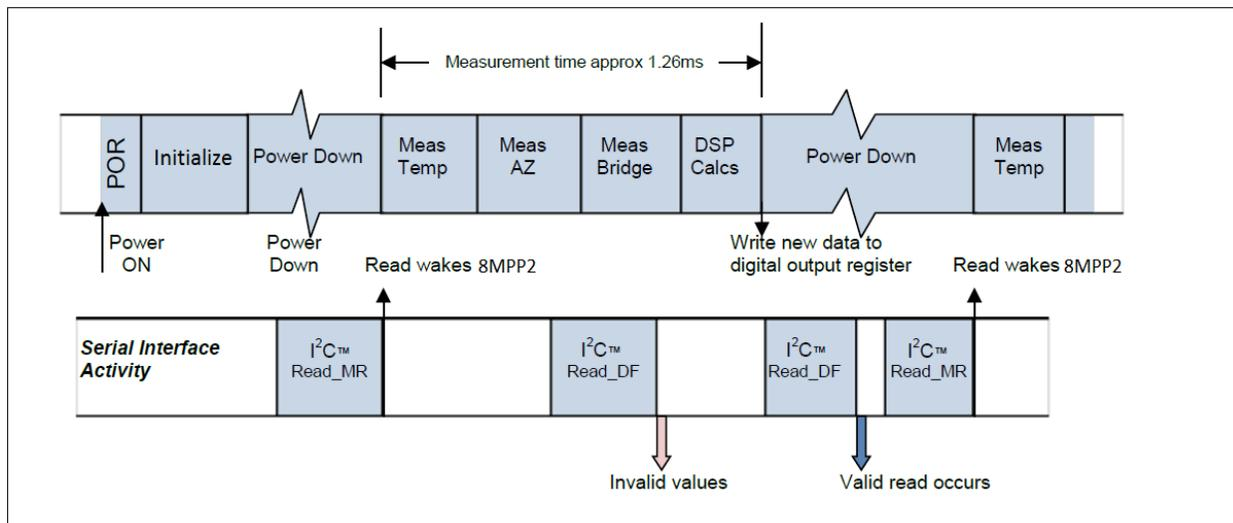
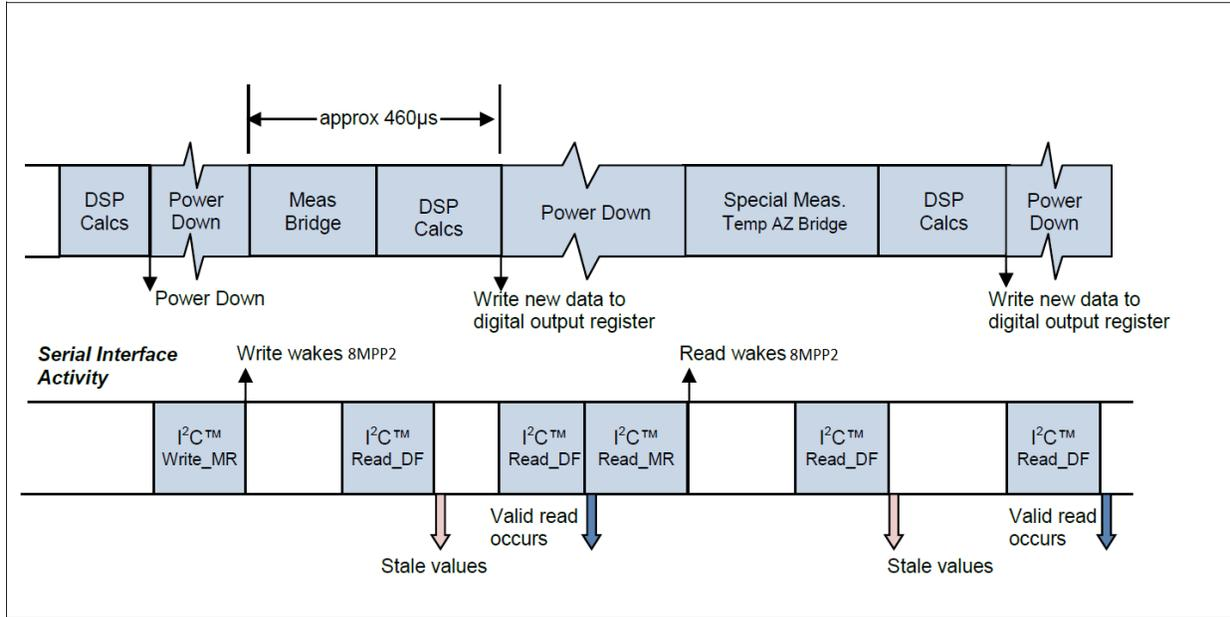

Figure 3-4: Sleep Mode Timing Diagram
Figure 3-5: Sleep Mode Data Fetch Timing Diagram
In Sleep Mode, after initialization, the 8MPP2 will power down until the controller sends a Read\_MR or a Write\_MR command. Specifics on the Read\_MR and Write\_MR commands are given in section 3.1.3. A Read\_MR or Write\_MR wakes the ZSC31014 and starts a measurement cycle. If the command is Read\_MR, the part performs temperature, auto-zero (AZ), and a pressure measurement followed by the DSP correction calculations (see Figure 3-4). If the command is Write\_MR, the part measures only the pressure and performs the correction calculations using previously measured temperature and auto-zero data (see Figure 3-5). Valid values are then written to the digital output register, and the 8MPP2 powers down again.